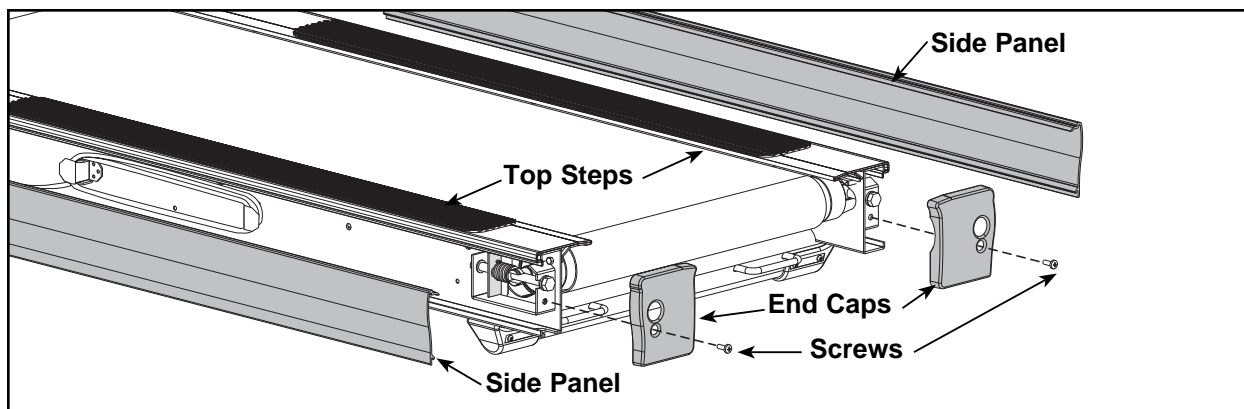

Figure 3
- A. Using a Phillips screwdriver, remove the screw that holds each end cap in place. See Figure 3.
- A. Pull each side panel out and off the treadmill. See Figure 3.
- B. Grasp each top step and lift it out and off the treadmill. See Figures 3 and 4.
- A. Using a Phillips screwdriver, tighten the screw securing each end cap in place. See Figure 3.
- A. Place each side panel into position slightly under the end cap and use your hand to push all along the bottom edge of the side panel to snap it in place. See Figure 3.